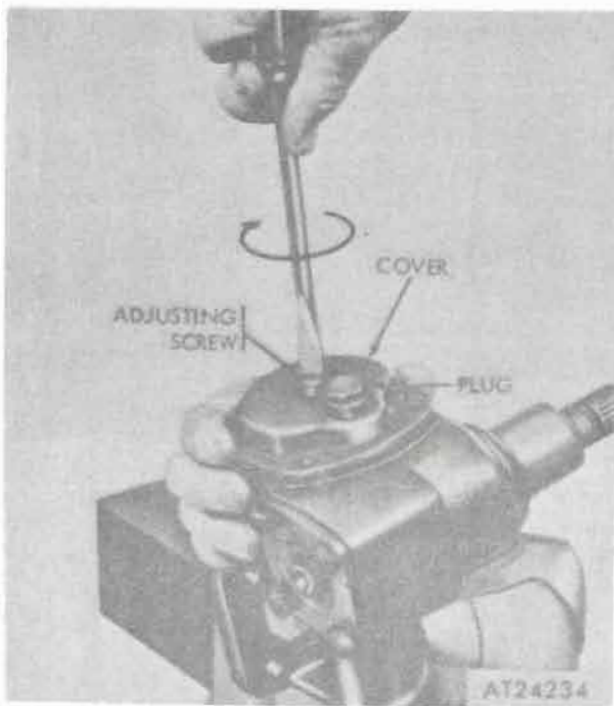
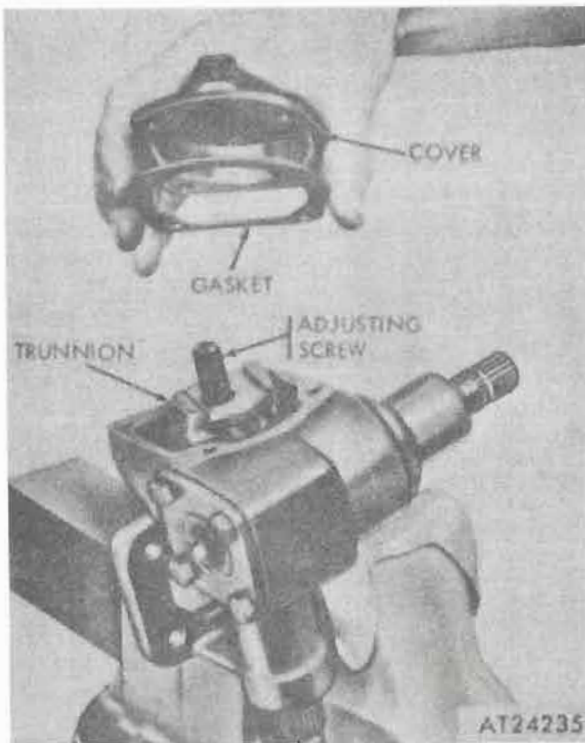

Figure 16-7. Removing cover assembly.
Figure 16-8. Cover assembly and gasket.
e. Turn adjusting screw down (clockwise) to raise cover assembly off housing (fig. 16-7).
f. Lift off cover assembly and gasket (fig. 16-8). Remove plug from cover (fig. 16-7).
g. Slide adjusting screw and plate assembly out of trunnion of sector shaft (fig. 16-8).
b. Worm and roller mesh adjustment is controlled by adjustment screw mounted in sector shaft cover (fig. 16-7). With steering wheel on shaft, turn wheel from lock-to-lock (extreme right to extreme left). Return wheel one-half distance of extreme right to extreme left. This is a high spot or straight-ahead position. Turn adjusting screw clockwise until there is drag on the wheel. Install jam nut on adjusting screw and turn down finger tight. Hook spring scale to steering wheel at point where spoke joins rim, and rotate wheel through high spot with aid of scale. Scale reading should be between 1.6 and 2.2 pounds. If reading is too high, turn adjusting screw counterclockwise and check tension again. If reading is too low, turn adjusting screw clockwise and check tension again. When correct tension is obtained, lock jam nut by holding adjusting screw in place with screwdriver while tightening nut with wrench.